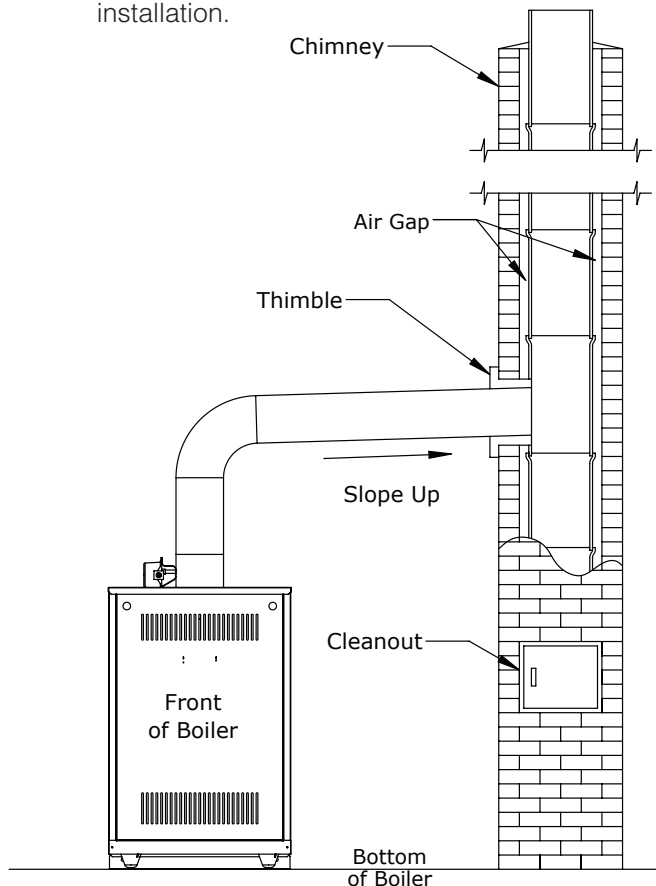

Figure 6-3: Typical Single Draft Hood Installation 49-075S through 49-299S
- B. Install vent piping from vent damper outlet to chimney. See Figure 6-3 for typical vent installation.